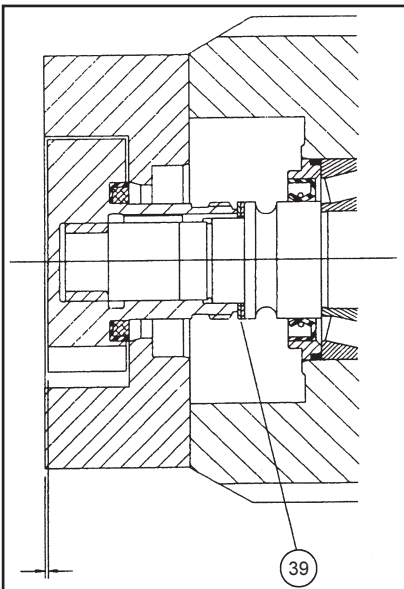

Figure 17
- b) Loosen screws (29) in rotor retainers (28) until pins (30) can be removed. Remove rotor retainers from shafts, taking care not to lose shims (39).
- c) Add shims to shim pack to reduce front clearance, remove shims to increase front clearance - see Figure 17. Shims are available in increments of 0.025mm (0.001 inch).